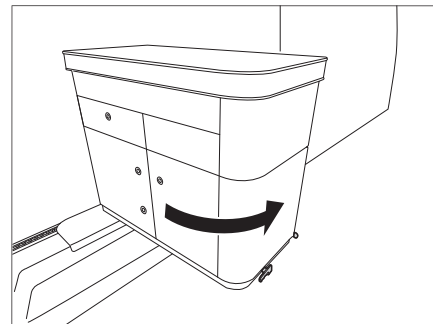

Fig. 29 Swivel out the kitchen block
- Swivel the kitchen unit outward (Fig. 29).